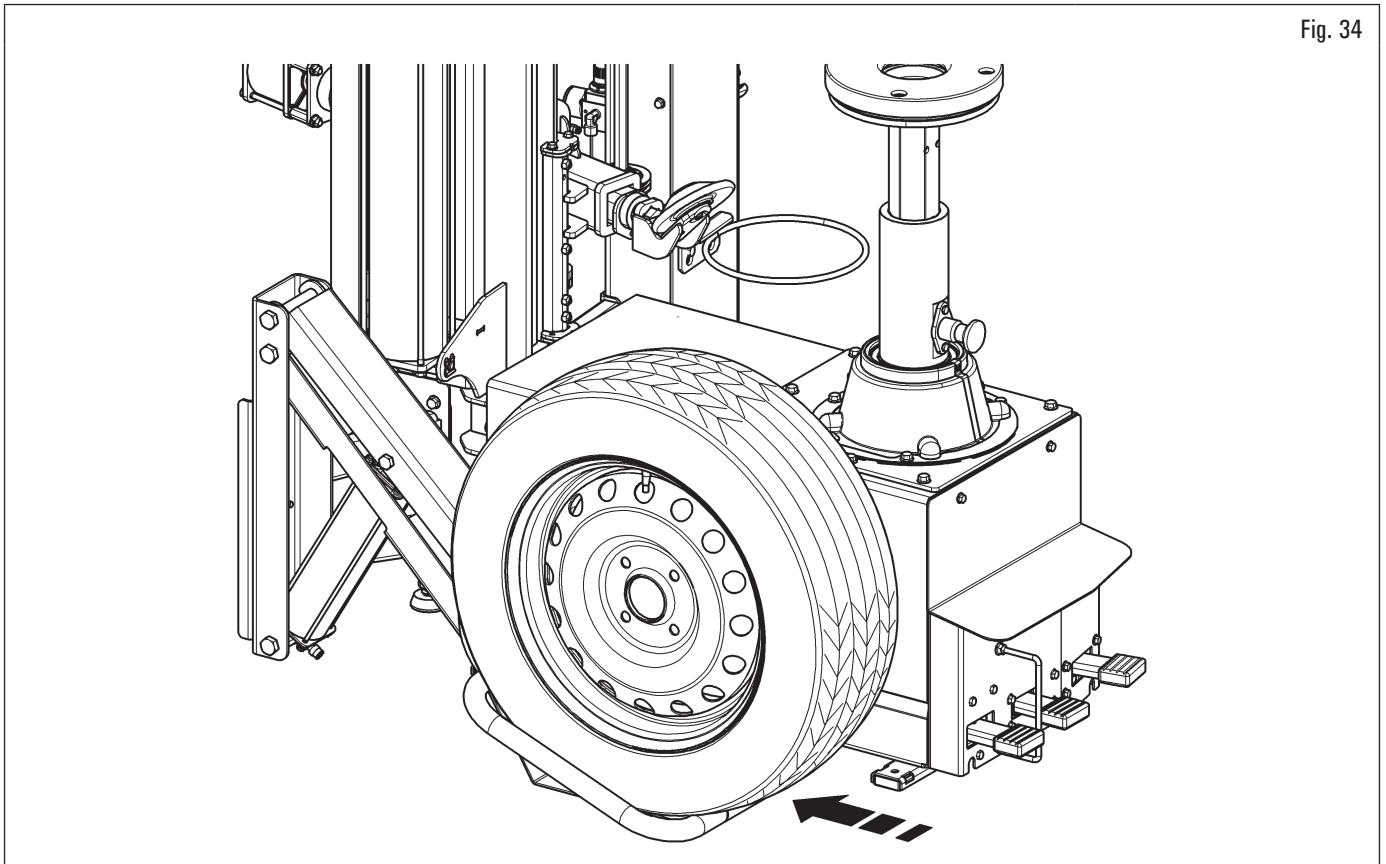

Fig. 34
1. After placing the wheel on the lifting plate (see Fig. 34), press the lifting device drive pedal (Fig. 35 ref. 1) downwards and bring the wheel to a level where it can be shifted to the spindle by hand (see Fig. 35);